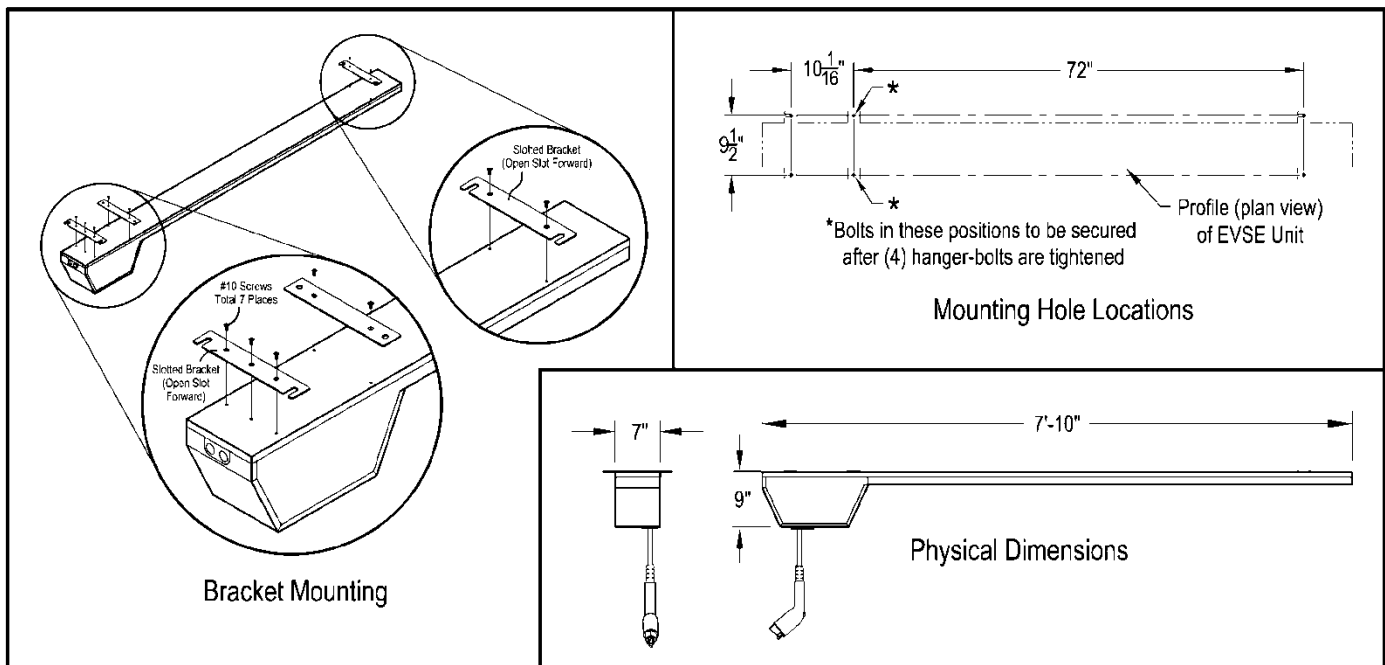

Figure 5
2. From the Accessory box select the Slotted Mounting Brackets (2), Non-slotted Mounting Bracket (1), and Flat Head Screws (7).
3. Install the Slotted Mounting Brackets at both ends of the EVSE Unit and the Non-slotted Mounting Bracket between them using the Flat Head Screws as shown in **Figure 5**. Note the direction of the open ends of the Slotted Mounting Brackets and the location of the Slotted Mounting Bracket with three (3) mounting holes.